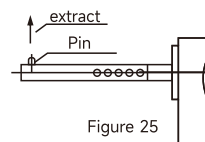

Figure 25
(3) As shown in Figure 25: If the cabinet door interlocking is not required (i.e. when the switch is closed, the cabinet door cannot be opened; when the cabinet door is open, the switch cannot be closed), use a pliers to pull out the black cylindrical pin at the extension shaft pin end. If the cabinet door interlocking is required, it does not need to be pulled out. Then insert the extended shaft into the hole of the switch square shaft and fully insert it, and then tighten the set screw in the switch square shaft.